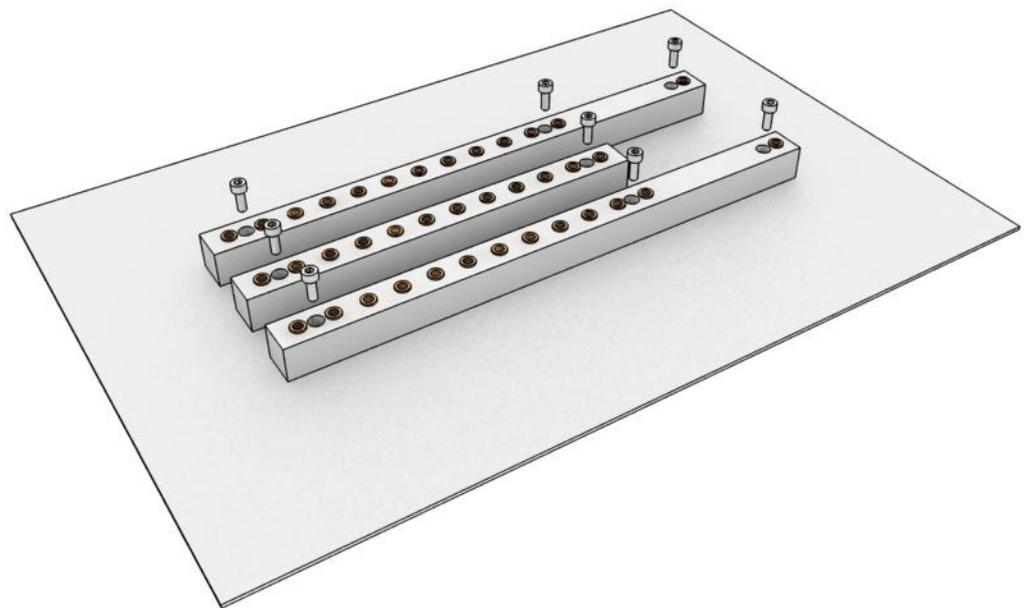

Figure 6: Mounting of the fixing bars
In the case that “mounting bars” are used, the proposed installation steps for the SNV018EC.24 are the following and illustrated in the figures 6 to 11,:
1. Mount the two mounting bars SNV018.24.0021 and the mounting bar SNV018.24.0022 on the plate as shown in figure 6. Use bolts M4x10 alen (DIN912) with nut.